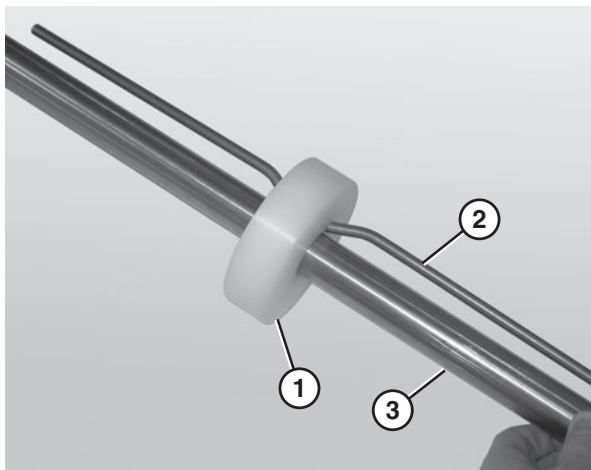

Figure 87
1. Place the idler puck (**Figure 87, item 1**) at the center of the bent retaining bar (**Figure 87, item 2**).
2. Slide the idler puck onto the idler shaft (**Figure 87, item 3**). Make sure to center the idler puck.